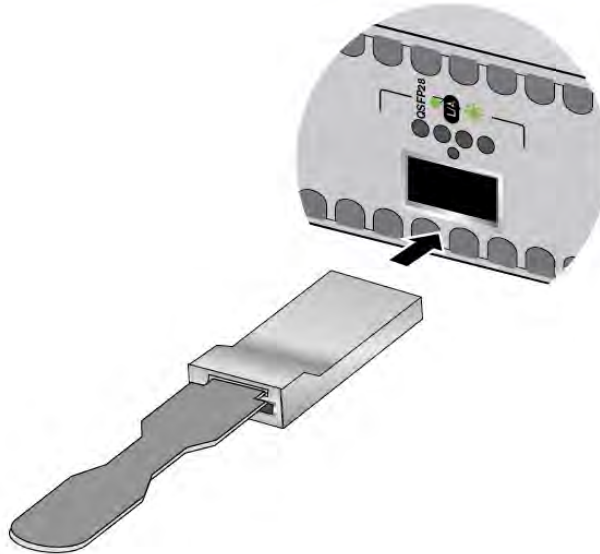

Figure 120. Installing 100Gbps QSFP28 Transceivers in XEM2-1CQ Line Cards
- 100Gbps QSFP28 transceivers for XEM2-1CQ Line Card: refer to Figure 120.